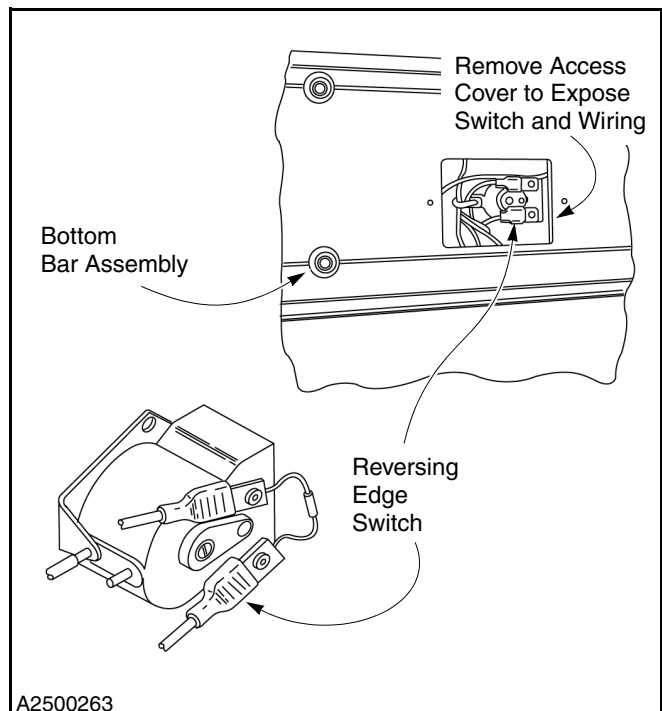

Figure 46
1. The reversing edge switch is located under the Ry-Wi cover inside the bottom bar assembly. To inspect or adjust the switch, remove the access cover from the face of the bottom bar assembly. (See Figure 46.)